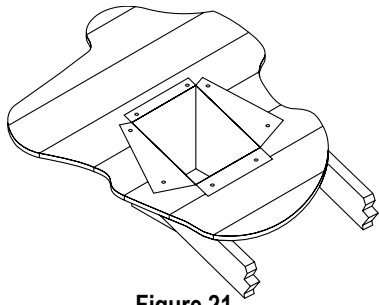

Figure 21
7. Using tin snips, cut the Support Box from the top corners down to the roof line, and fold the resulting flap over the roof sheathing (Figure 21). Before nailing it to the roof, run a bead of non-hardening sealant around the outside top edges of the Support Box so as